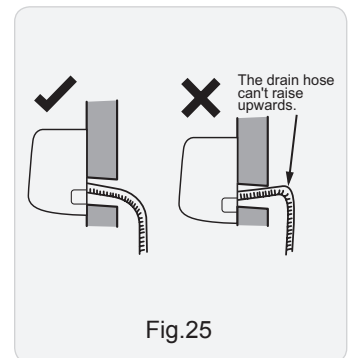

Fig.25
(1) The through-wall height of drain hose shouldnt be higher than the outlet pipe hole of indoor unit.(As show in Fig.25)
(2) Slant the drain hose slightly downwards. The drain hose cant